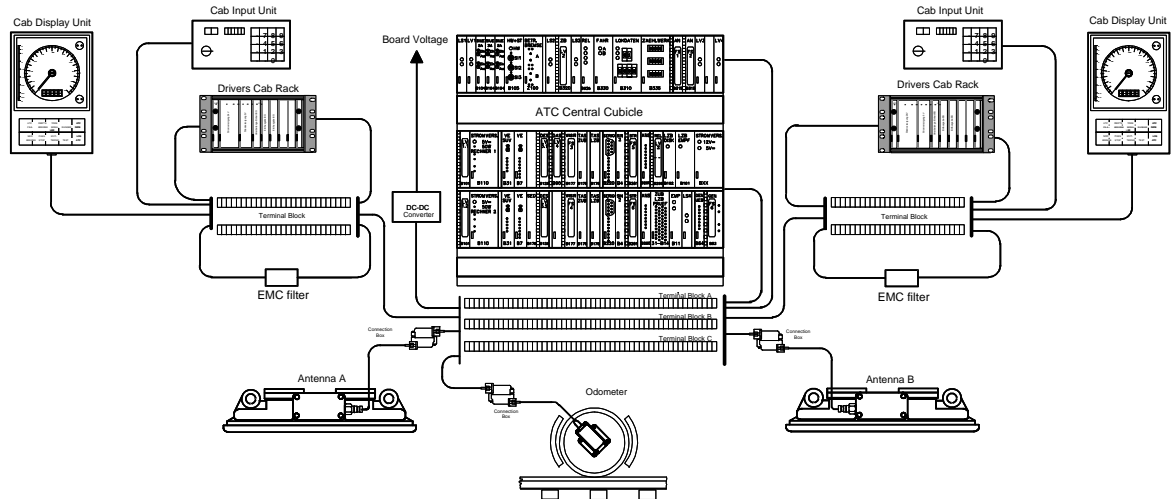
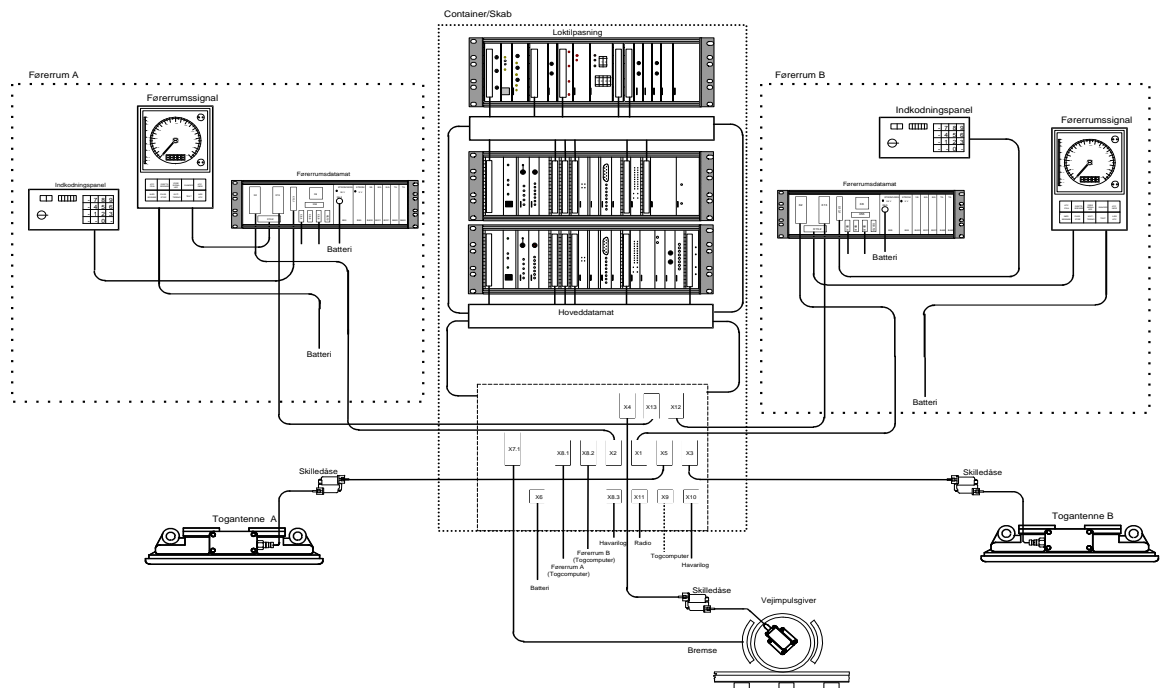

Figure 20 Older ATC ZUB123 installation
Figure 21 Newer ATC ZUB123 installation
- Older installations: Train cables are connected to terminal blocks. See Figure 20.
- Newer installations: Train cables are connected to a cubicle, with multi connectors. See Figure 21.
All other equipment and cables is not necessary for the STM-DK Subrack installation. See Figure 20 and Figure 21 for details.